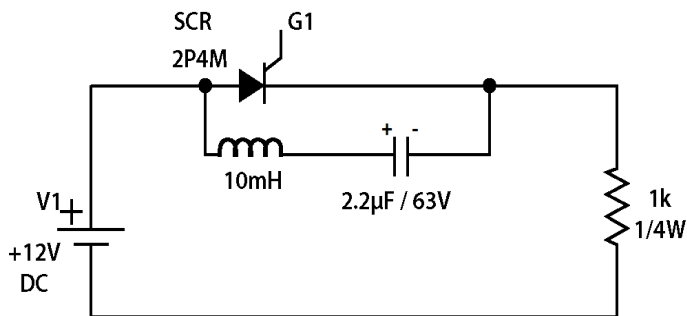

Figure 9
1. Connect circuit as shown in Figure 9.